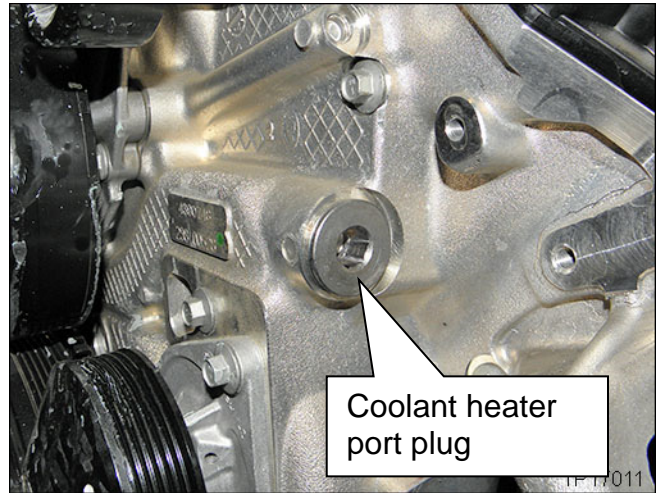

Figure 2
- With the power steering pump positioned out of the way, you will have access to the coolant heater port plug shown in Figure 2.